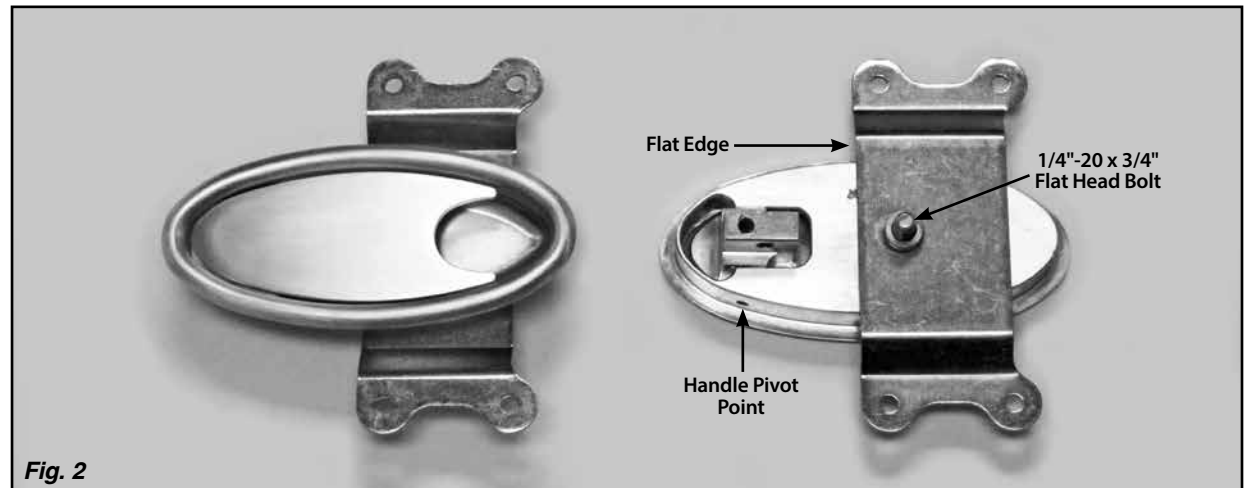

Fig. 2
Step 5: Position the interior door panel on the door. Insert the door handle into the hole, and install the provided 1/4"-20 x 3/4" flat head bolt through the door handle and into the back plate. Tighten using a 5/32" ball-end Allen wrench (not included). **Fig. 2**